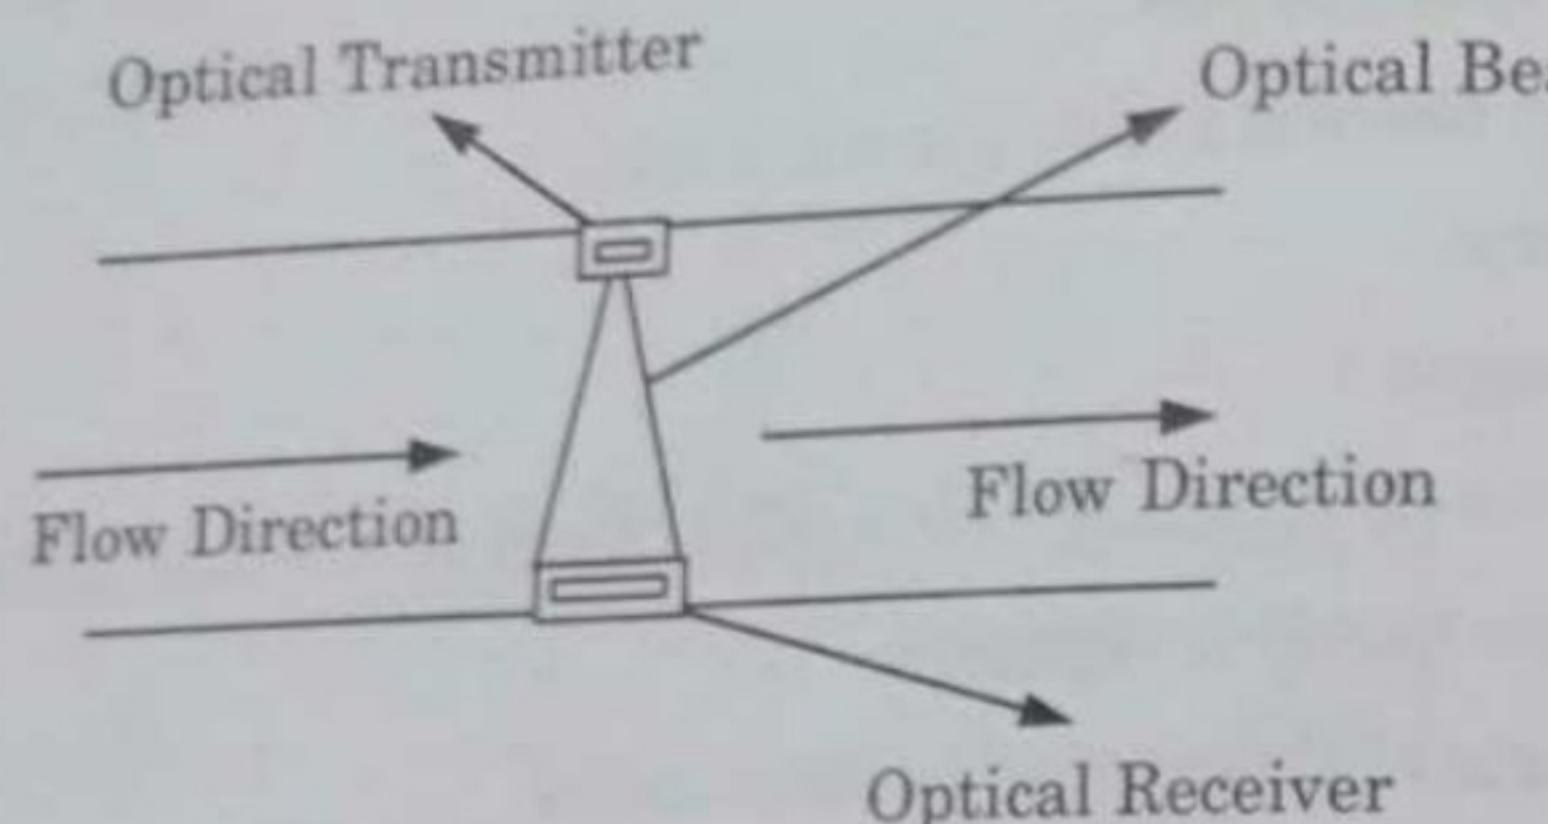

Fig. 2.19.1. Optical flow meter.
3. Here, the particles of the gas flowing through the pipe scatter the laser beam to produce pulses which are picked-up by the receiver as shown in Fig. 2.19.1.